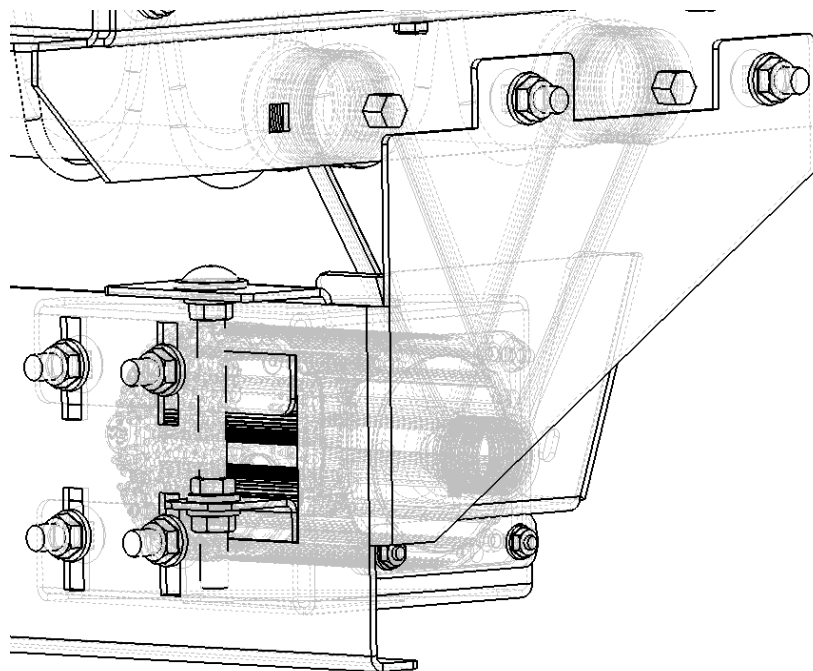

Figure 13: PWD drive motor
2. The PWD drive motor is located at the bottom of the PWD with its axis of rotation parallel to the rollers. Figure 13 illustrates the location and mounting of the PWD drive motor.